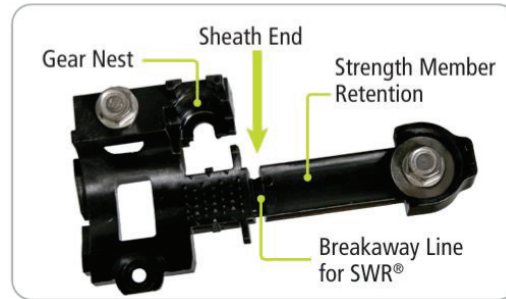

Figure 40
Parts of the CAU (Figures 40 and 41)
1. Remove the strength member retention from the CAU at the breakaway line by hand (Figure 40).